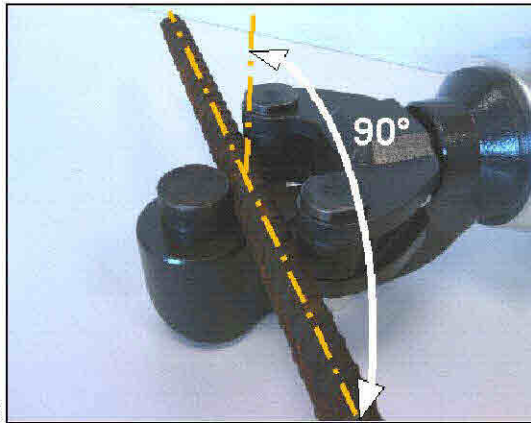

Fig. 3
**Make sure the workpiece lies at right angles with respect to the axis of the equipment (fig. 3).**
- Place the workpiece in the relative head housing (fig. 3) making sure that it adheres well to the base of the housing so that it cannot change position during bending.